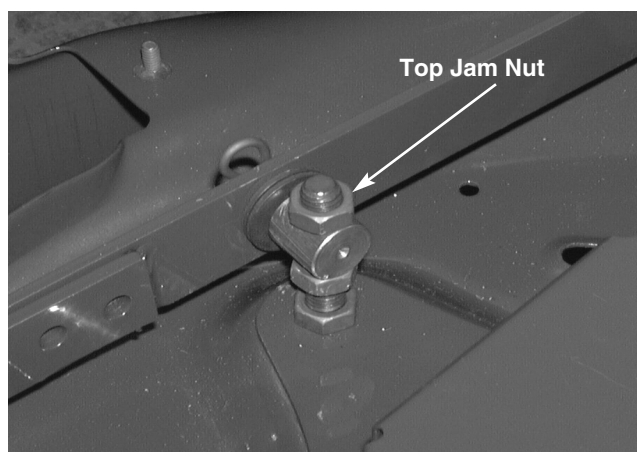

FIGURE 3.
- 6). Loosen both jam nuts that are directly on top of the center deck ferrules using a 3/4" wrench. See figure 3.
- 8). Raise or lower the mowing deck assembly by tightening or loosening the jam nuts that are directly on top of the center deck ferrules, until the proper measurement (front to back) has been achieved. Refer to figure 3.